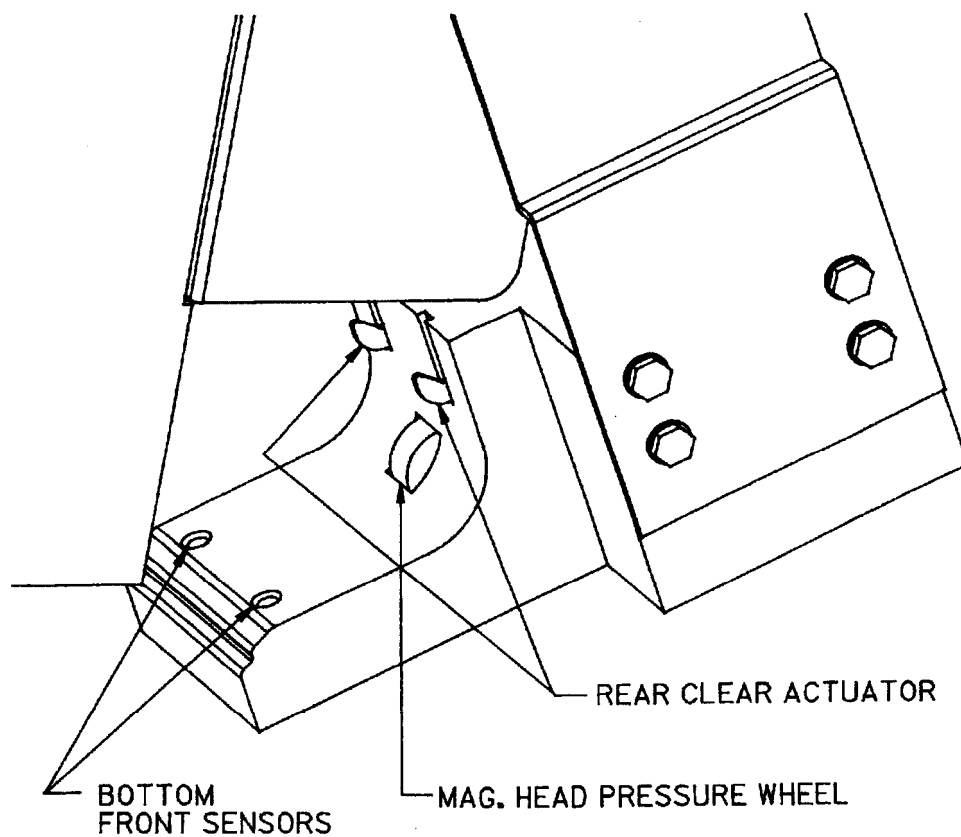

Figure 1. USA³ Cleaning Details #1.
3. Open the acceptor to expose the note path. With your fingers, exercise the rear-clear actuator, the magnetic head pressure wheel, and the tension arms (see Figures 1 and 2).
5. Wipe the top and bottom front sensors dry with a cotton swab (Figures 1 and 2).